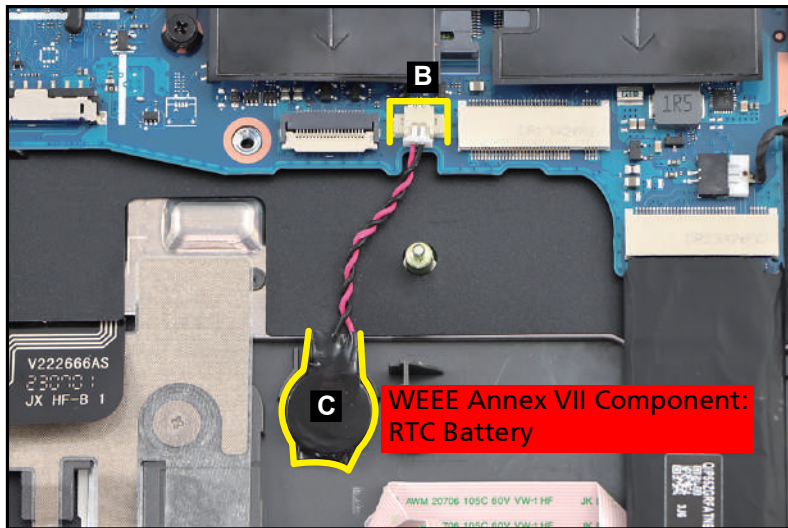

Figure 3-40. RTC Battery Removal
2. Disconnect the RTC battery cable from the mainboard connector (B) (Figure 3-40).
3. Using plastic tweezers, carefully pry to detach the adhesive tape underneath the RTC battery (C) (Figure 3-40). Then remove the RTC battery.